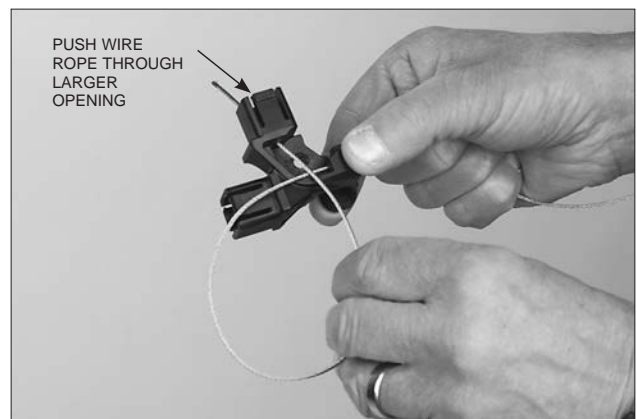

FIGURE 5-72
- Pull slack, make a loop and insert the rope through the larger opening in the bearing area. See Figure 5-72.